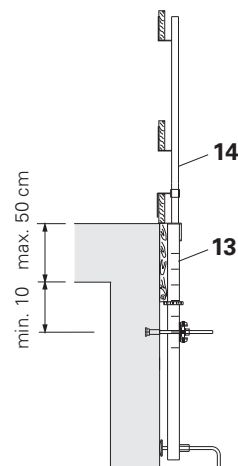

Fig. A5.03
With Slab Stopend Bar 105 (13) and Handrail Post HSGP-2 (14). (Fig. A5.03)